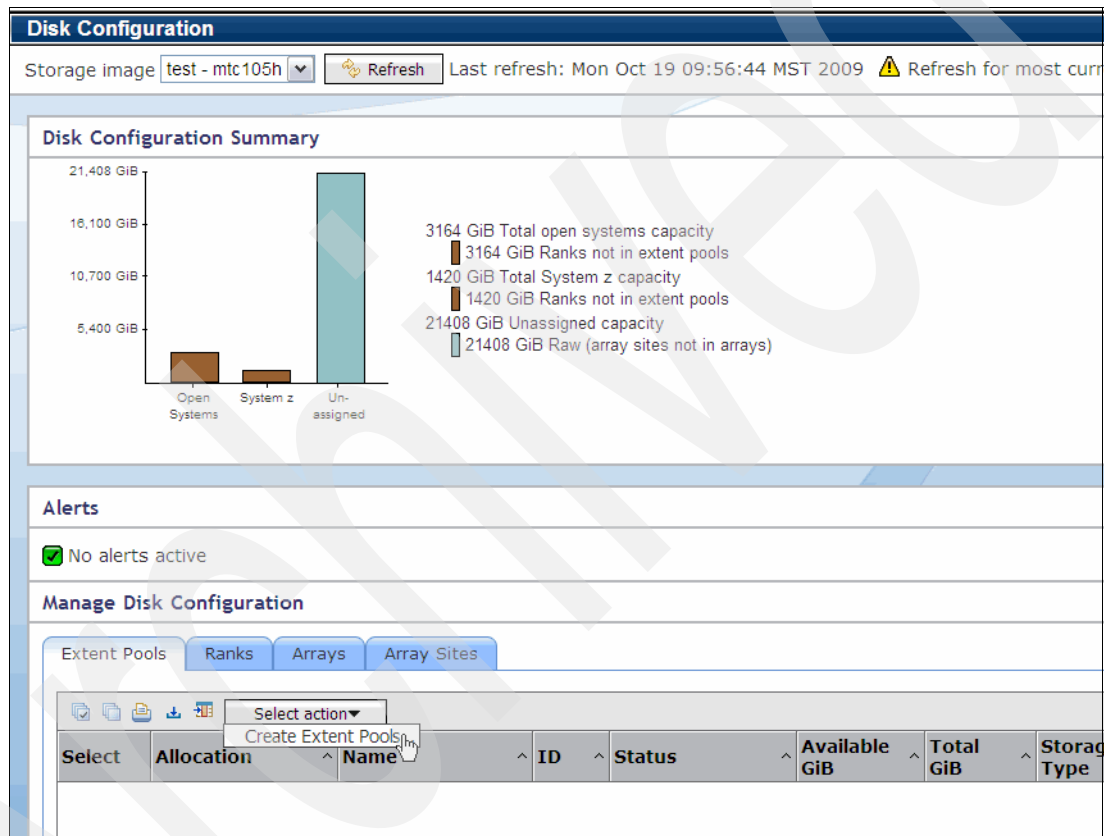

Figure 13-36 Select Create Extent Pool
1. In the DS GUI welcome window, from the My Work section, expand **Configure Storage** and click **Disk Configuration**. This opens the Disk Configuration window and the Extent Pool information (see Figure 13-36).
Select **Create Extent Pools** from the Select action drop-down menu, as shown in Figure 13-36.